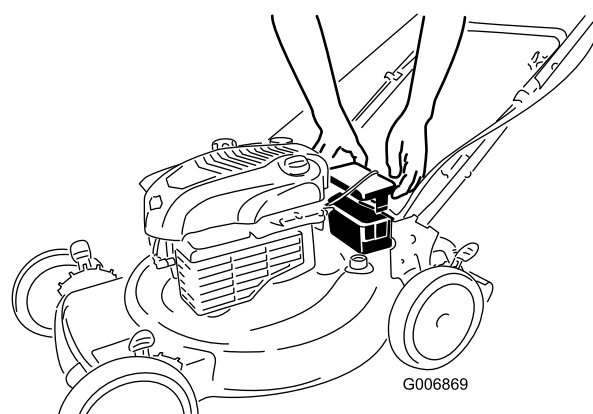

Figure 7
1. Unclip both ends of the battery cover and remove it (Figure 7).